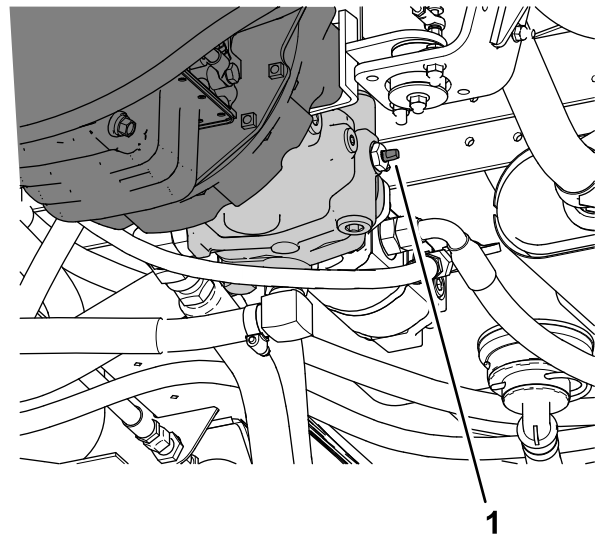

Figure 56
- Rotate the tow valve (Figure 56) 90° in either direction to open the tow valve.